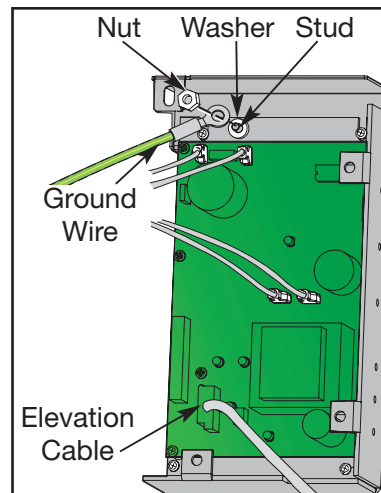

Figure 10
B. Disconnect the elevation motor cable from the lower board. See Figure 10.
C. Using a 3/8" nutdriver, remove the nut, washer and ground wire from the stud above the lower board. See Figure 10.
- C. Place the washer on the stud then follow it with the ground wire terminal. Use a 3/8" nutdriver to secure the nut over the terminal. See Figure 10.